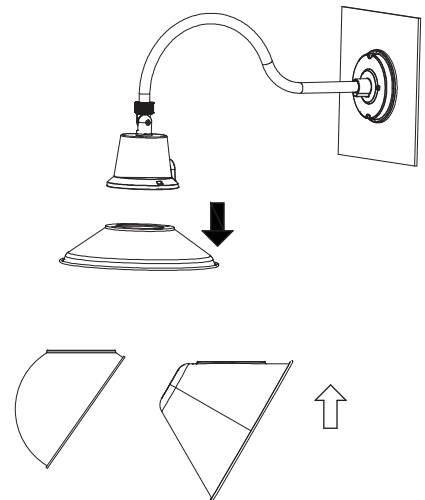

Fig 2
2. Remove the cover and replace it with a different shape (Fig 2)